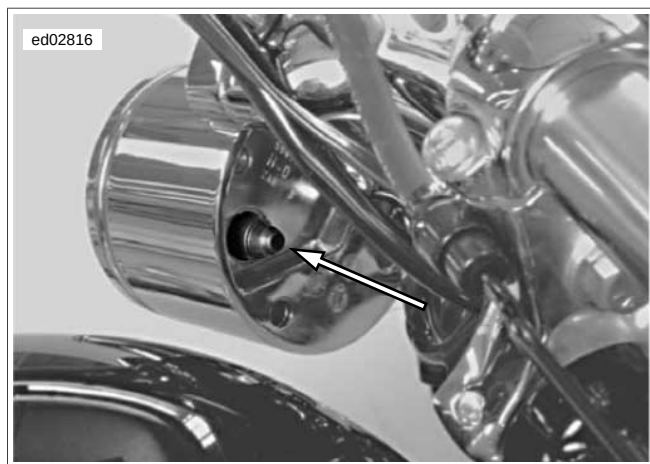
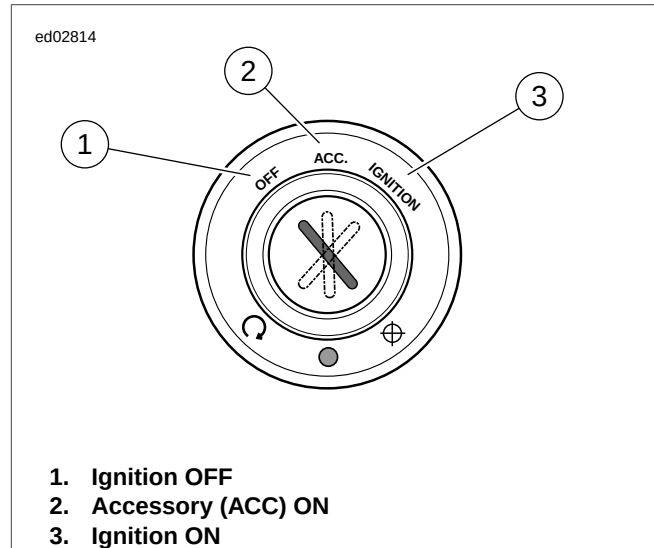

Figure 3-13. Trip Odometer Reset Switch (Typical)
Figure 3-14. Ignition Switch
- For a quick check of speedometer on XL, and tachometer on XR functions, a "WOW" test can be performed. See Figure 3-13 and Figure 3-14. Press and hold trip odometer reset switch then turn ignition switch ON. Release trip odometer reset switch. See Figure 3-15. Background lighting should illuminate, gauge needles should sweep their full range of motion, and indicator lamps (battery, security, low fuel, and check engine) should illuminate.